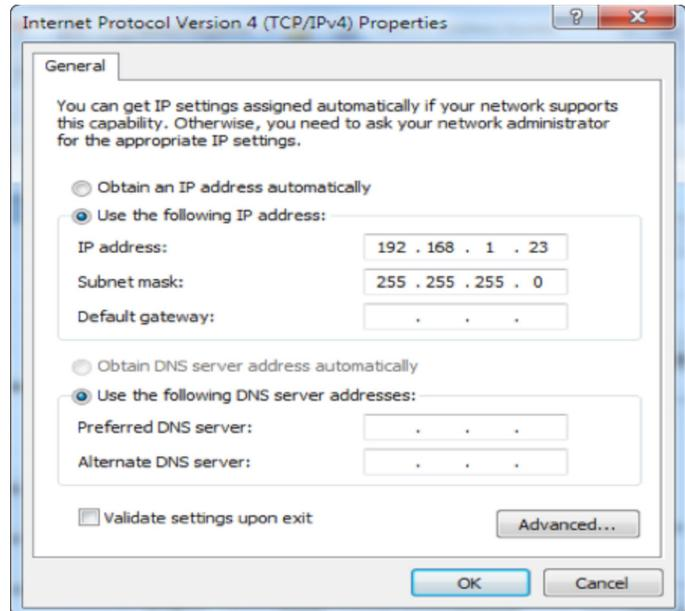

Figure 4: Example of a PC Ethernet port setting window
- A computer (PC or Mac) set to a static IP address in the subnet 192.168.1.xxx, where xxx is a subnet address (0 to 255) not being used by any other device on the network. Do not use 192.168.1.9 or the final IP address you will be using for the NPR. (See Figure 4.)